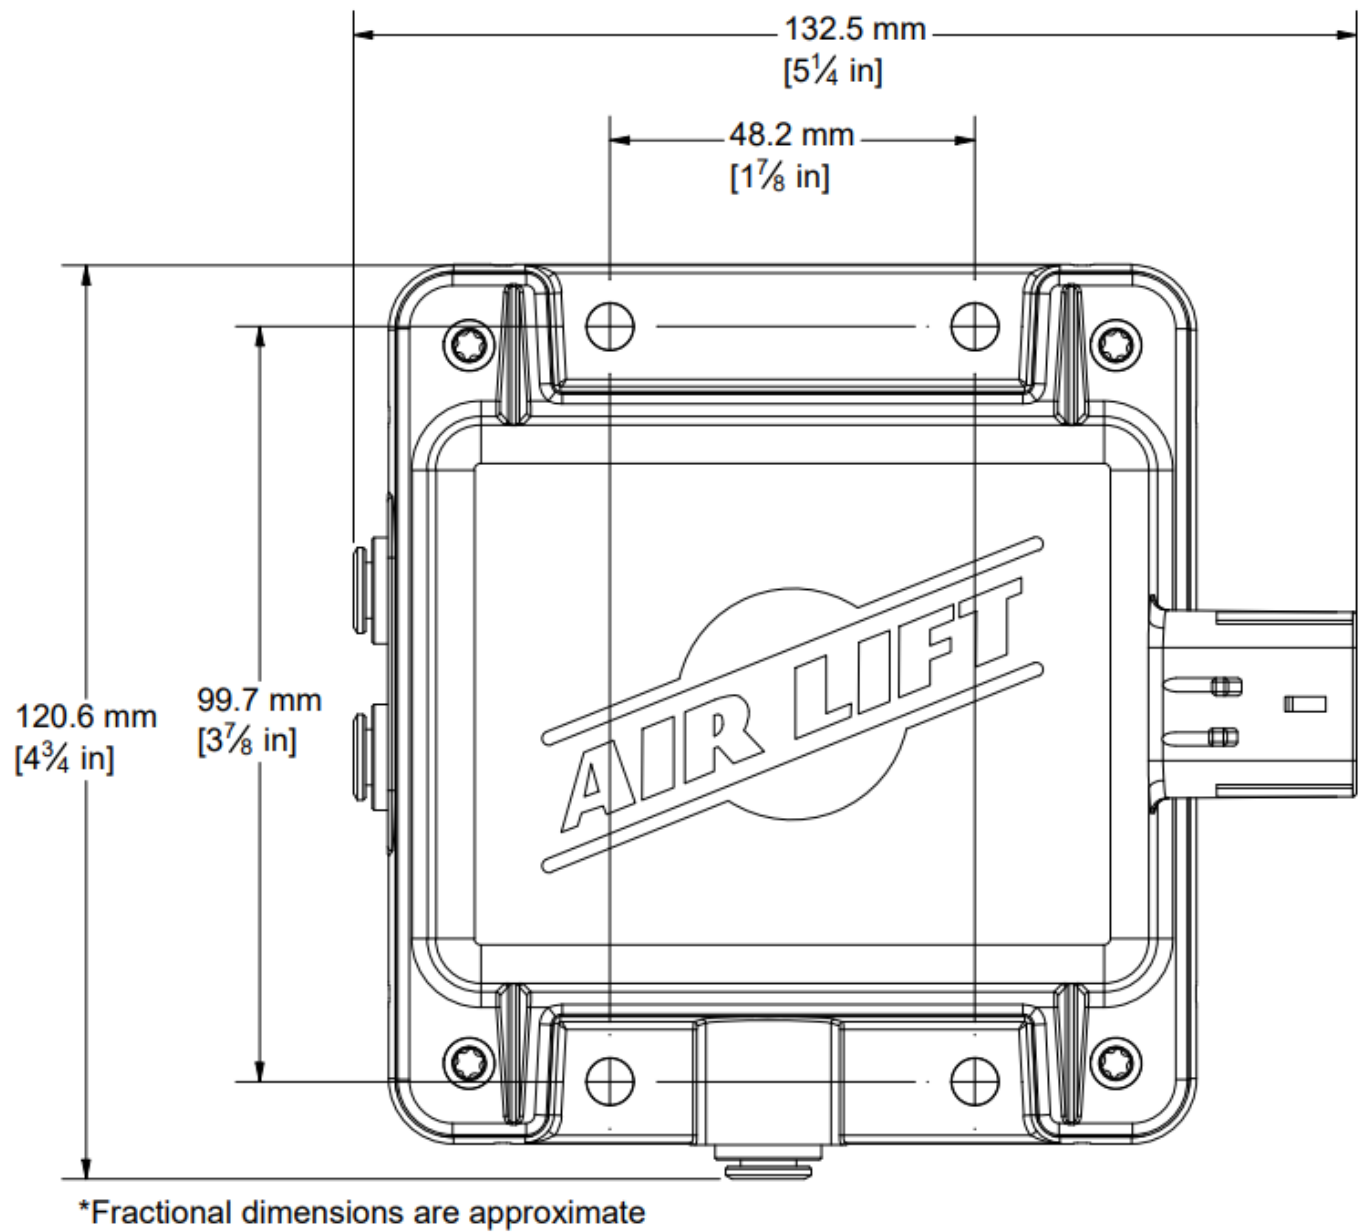

Fig. 24
3. Drill 3/16" pilot holes using the manifold or drilling template (Fig. 24). Mount the manifold using the self-tapping screws (S) provided. Do not over-tighten.